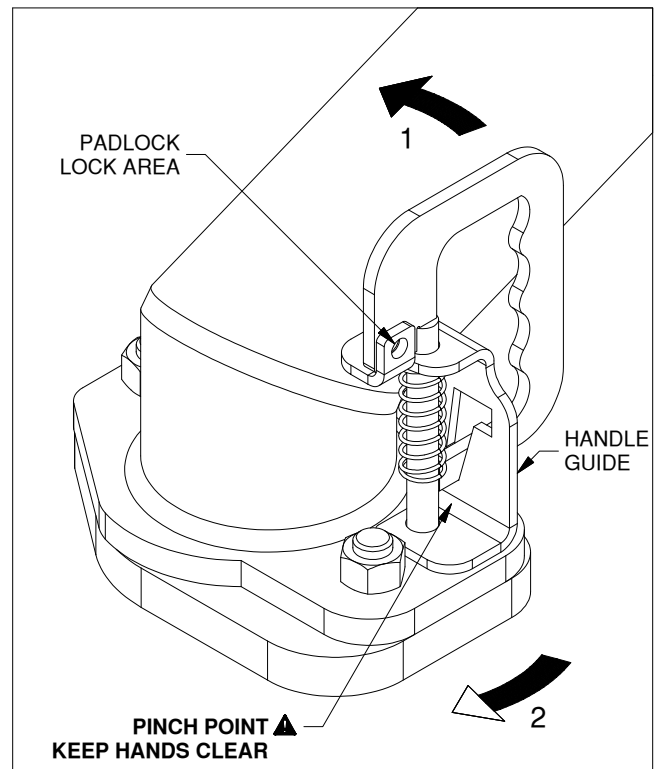

Figure B2: Coupler in "closed" position
4. **Lower the trailer.** Slowly lower the trailer onto the ball. When the ball is fully engaged in the coupler, set the coupler to the "closed" position. (1) To do this grip the handle and rotate it counter clockwise. (2) Rotate the coupler bottom plate clockwise until the latch pin is through the coupler bottom plate and the handle is flat against the bottom of the handle guide. See figure B2.
5. **NOTE:** If desired, it is possible to lock the Extend-A-Goose for added security. With the coupler handle in the "closed" position, use a padlock in the area noted in Figure B2.